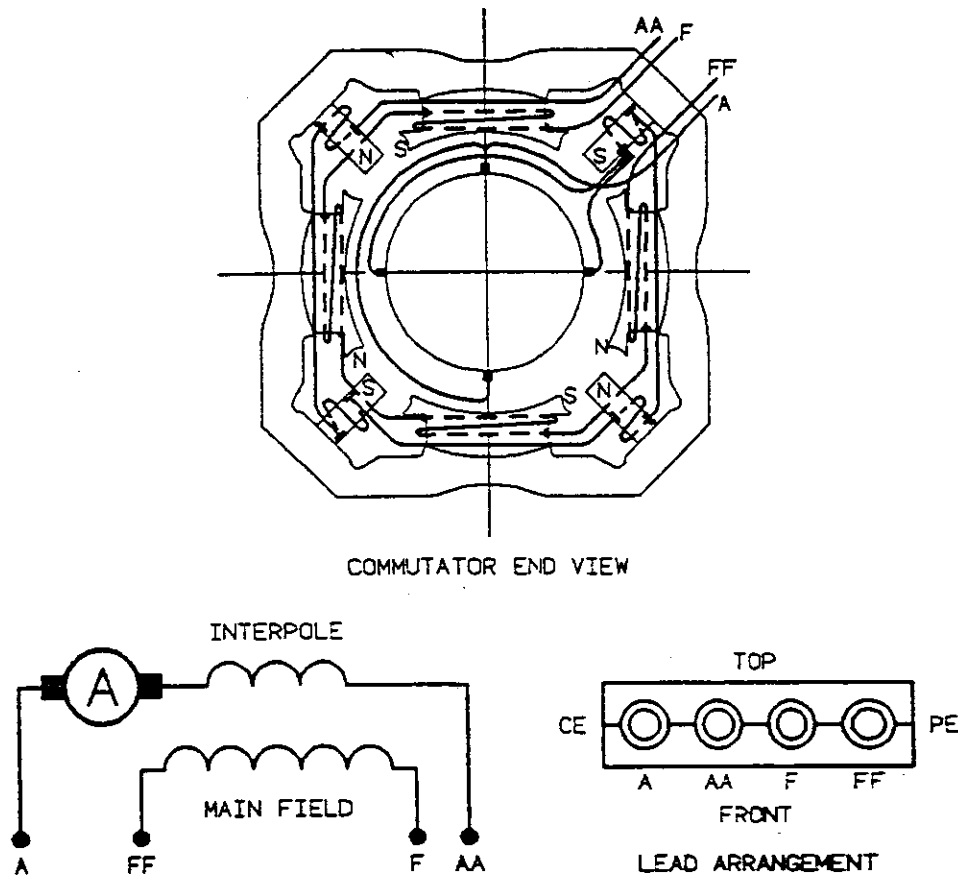

Fig. 3 - Wiring Diagram
2. Measure the resistance of the main field and interpole coil circuits with a Kelvin bridge and a thermometer as follows. Refer to Fig. 3.